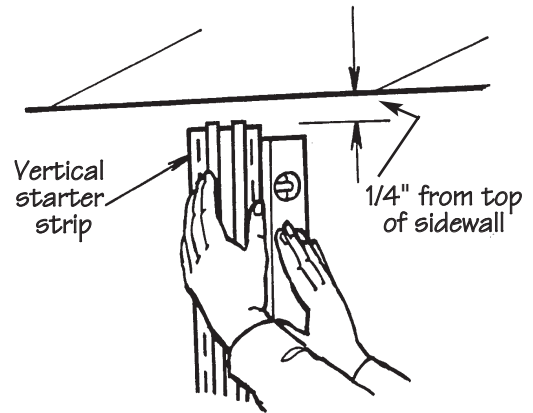

Figure 54.
- Find the center of each sidewall and use a level or plumbline to install two back-to-back J-channels or an H-divider bar (Fig. 54). Leave a 1/4" gap at the top and bottom. These will serve as starter strips in which to lock the vertical siding.